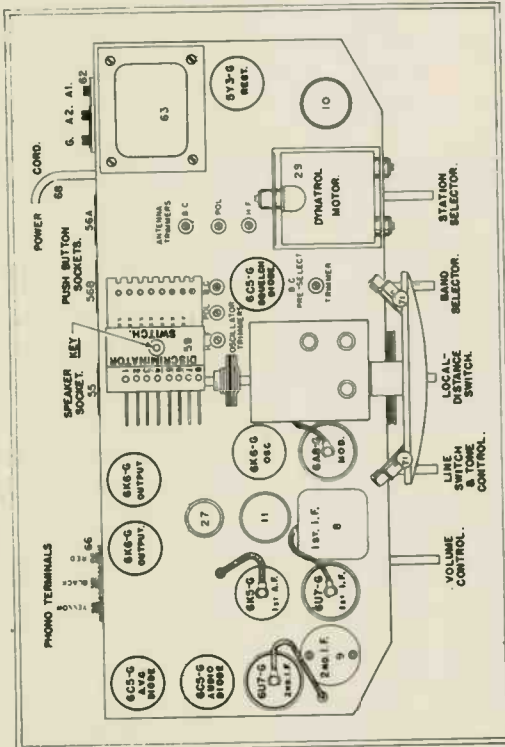

Fig. 2 Top View Model 1137
(c) To align the series trimmer (See Fig. 2), set the signal generator to the frequency indicated below (D) and then tune-in this signal with the station selector for maximum output. To obtain the best adjustment for the series trimmer, it will be necessary to rotate the station selector back and forth slightly while adjusting the trimmer for maximum output. Minor tolerance variations in series alignment at 2500 kilocycles in the Police Band and at 7000 kilocycles in the High Frequency Band may be compensated for by slight repositioning of the grid lead of the antenna coil in the Band affected.